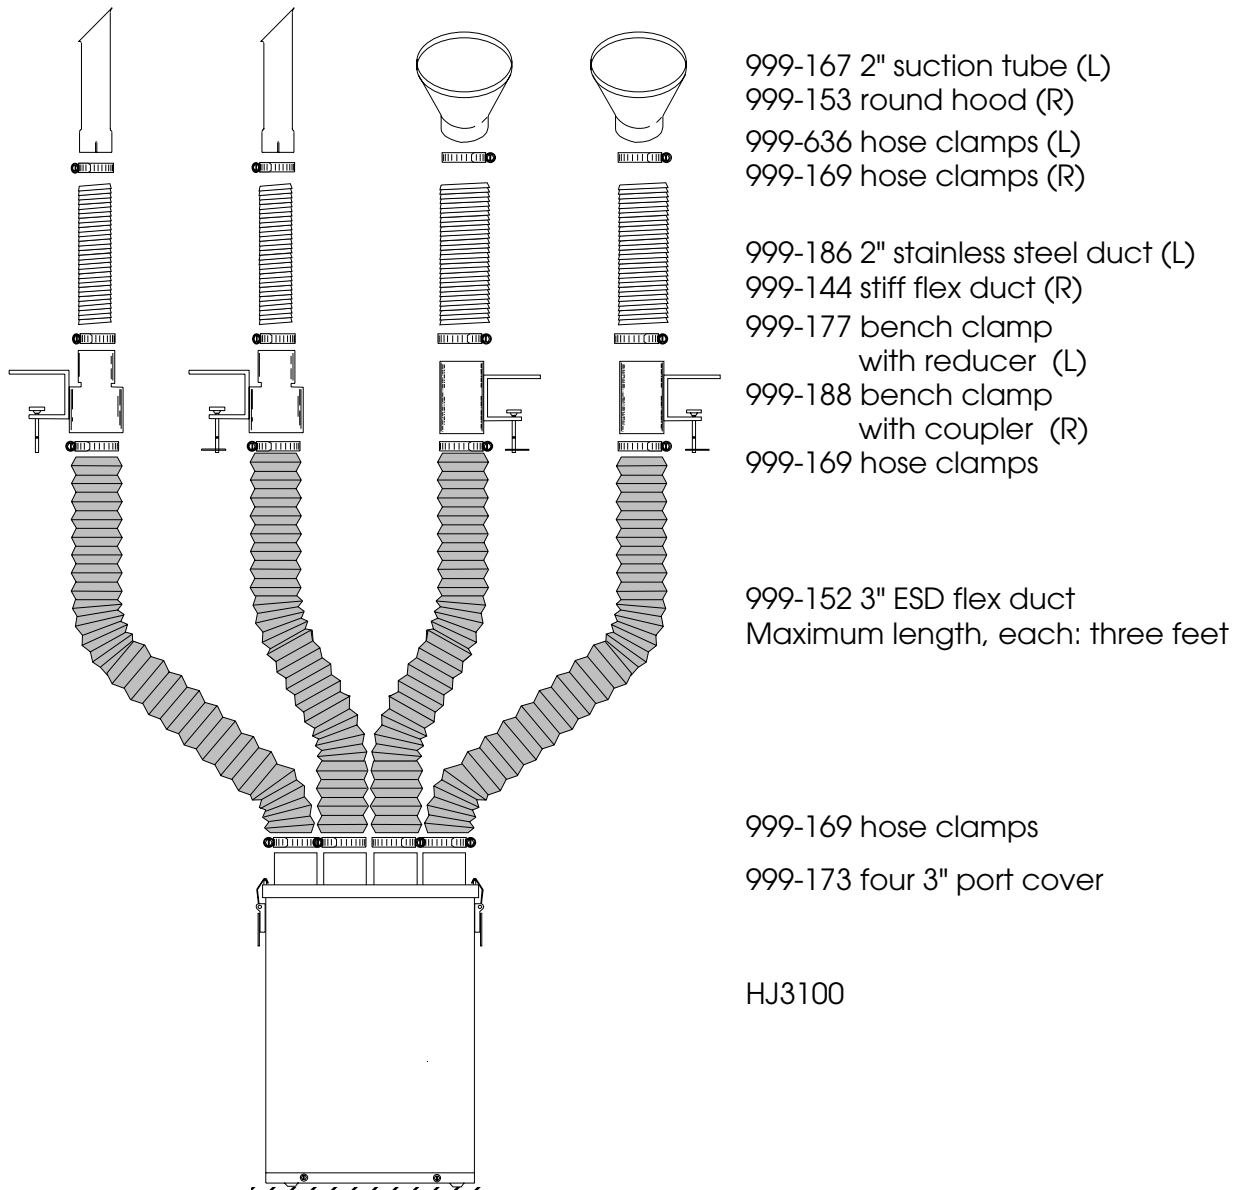

Figure 7.
4. If reducers are used (e.g. Fig. 7), put them as close as possible to the air intake (hood or other attachment).